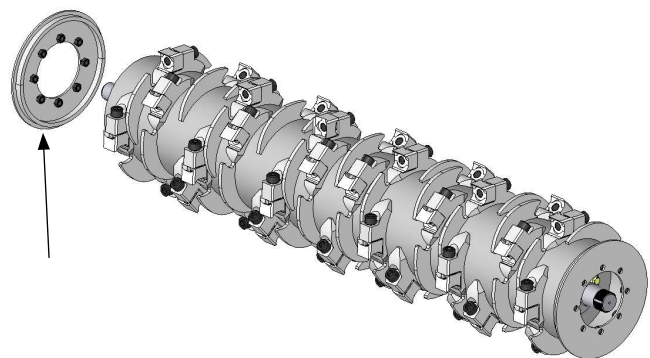

Figure 25
2. Slip the cutting drum out with the end plates on. See Figure 25.